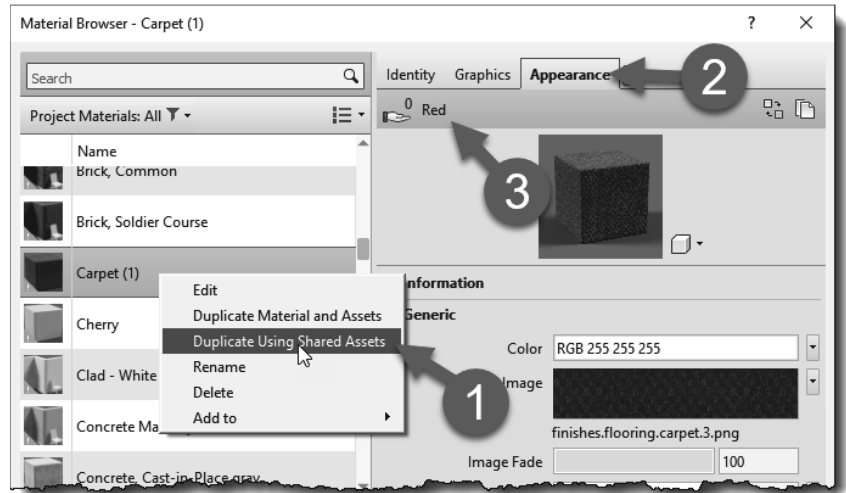

FIGURE 4-2.18 Duplicating a material
If you use **Duplicate Using Material and Assets** to duplicate a *Material* in your model, the **Appearance Asset** will be associated with the new *Material* AND the *Material* you copied it from! For example, in Figure 4-2.18, we will right-click on Carpet (1) and duplicate it. Before we do so, notice the *Appearance Asset* named “RED” is not shared (arrow #3 Fig 4-2.18).